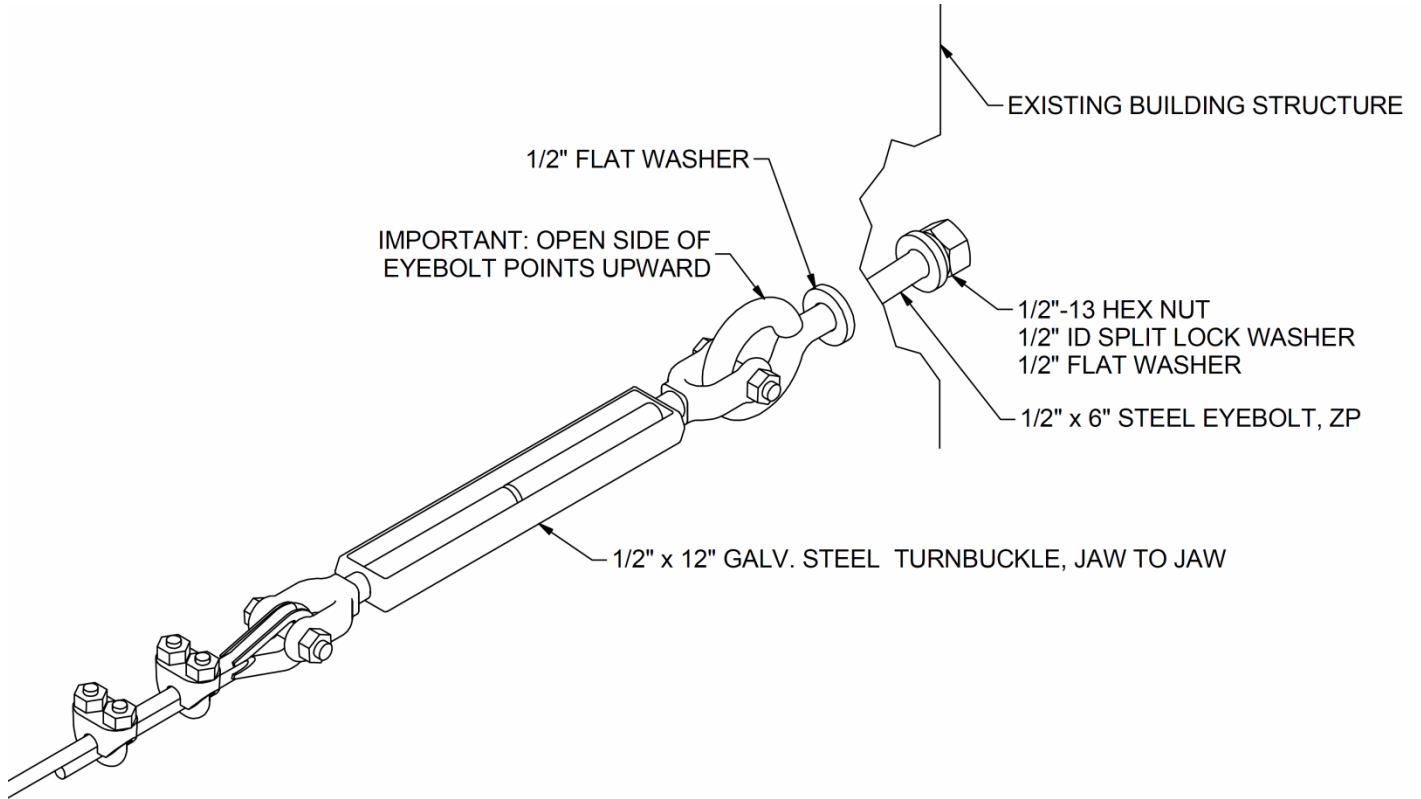

Figure 5: Standard Building Attachment On Adjustment End
- 8) Adjust the cables using the turnbuckles (see figure 5) as needed to minimize sag.